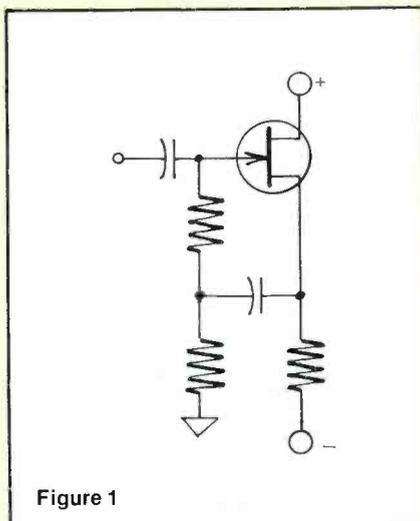

Figure 1
3. The circuit of Figure 1 is called
After introduction in 13-inch Magnavox models in May 1982, the C3 chassis now is used in 13- and 19-inch versions of NAP Consumer Electronic Corporation Magnavox, Philco and Sylvania brands. All circuitry for the C3 is located on one large printed-circuit board, except for the RGB transistors, a black-level bias circuit and the focus control which are located on the picture-tube-socket board (Figure 1).
Figure 1 All components (except tuners) of the NAP C3 are located on one large main circuit board and one smaller board that contains the picture-tube socket and other related components.